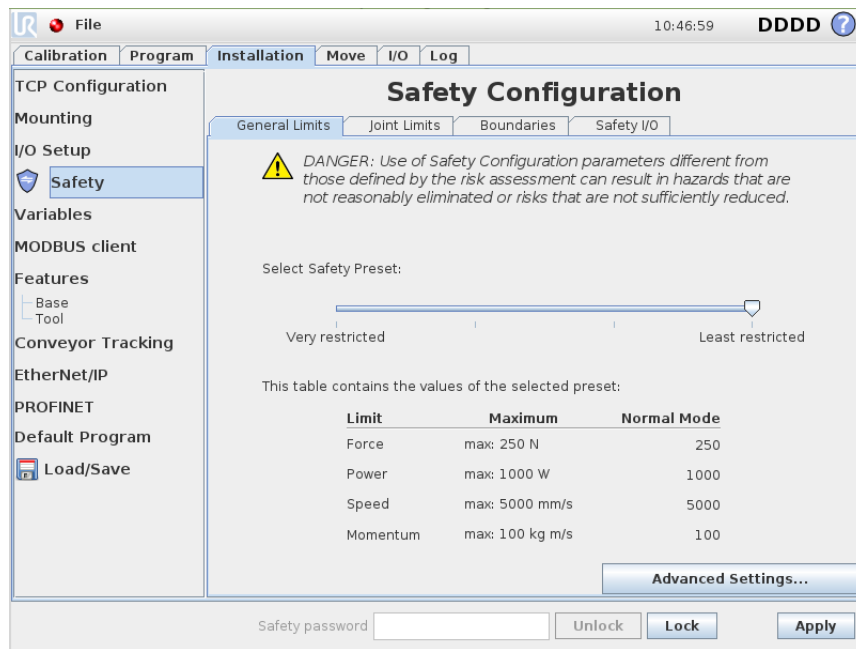

Figure 2.8: Safety settings
- (5) Go to the Installation tab and click on Safety. Unlock the Safety tab and in the General Limits select and apply the *Least restricted* safety preset limits before performing the dual robot calibration (see Figure 2.8).